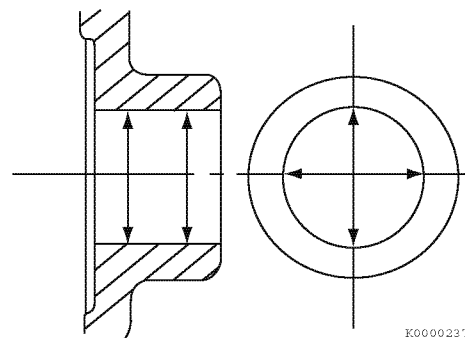

Figure 6-66
6. Measure the diameter of the wrist pin bore on both sides of the piston (**Figure 6-66**). See *Piston on page 6-7 for specifications*. Record the measurements.